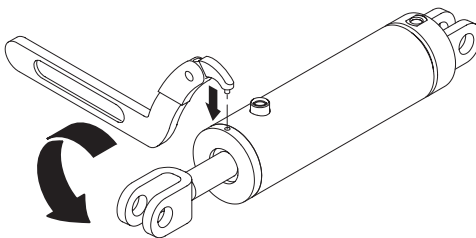

Figure 4-6, Cylinder Rebuild
3. Use a spanner wrench or similar tool to unscrew the gland cap from the cylinder tube. (Figure 4-6)